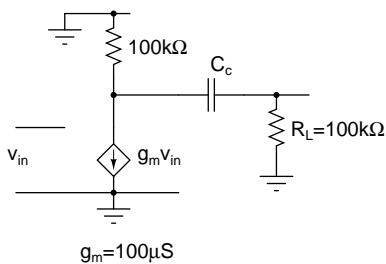

Figure 5: Problem 5
- Determine the value of the ac coupling capacitor C_c in Fig. 5 so that it and the load capacitor form a highpass filter with a cutoff frequency of $10/\pi$ MHz.